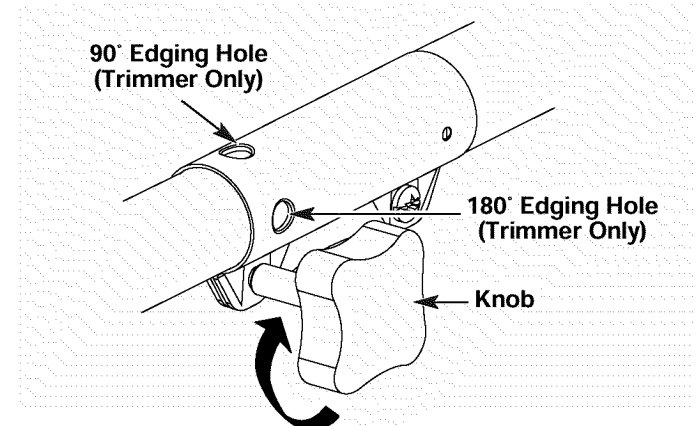

Fig. 12
3. Turn the knob clockwise to tighten (Fig. 12).
For edging (when using the line head cutting attachment with EZ-Link™ models), lock the release button of the cutting attachment into the **90° edging hole** or the **180° edging hole** (Fig. 12).